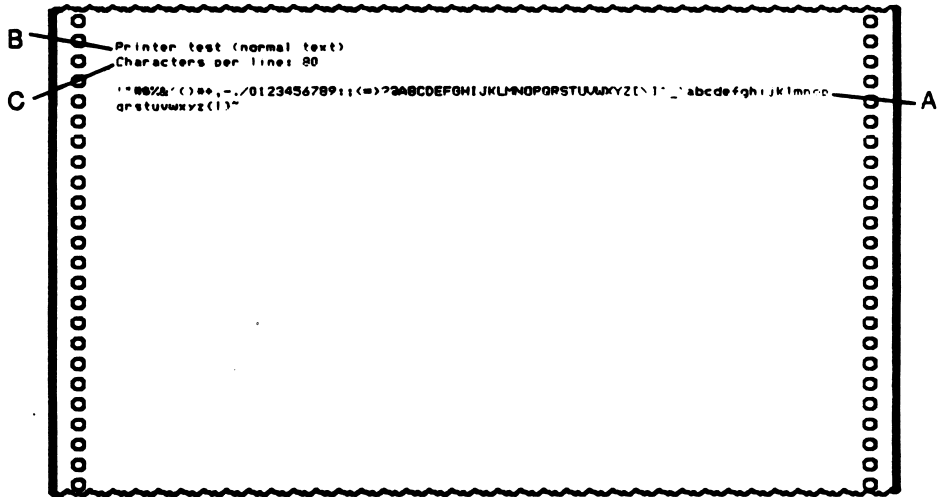

Figure 12
The test prints a line or a number of lines appropriate to the margin selected (see Figure 12) containing each character from the keyboard (A). It also prints the test name (B) and the number of characters per line that you selected (C).